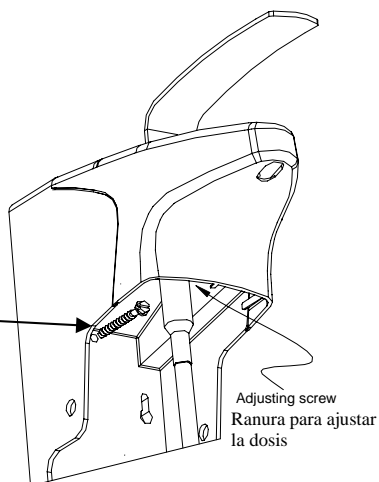

Figure 1
-ONE TAPCON MOUNTING SCREW **MUST** BE UTILIZED IN THIS LOCATION AS SHOWN IN FIGURE 1